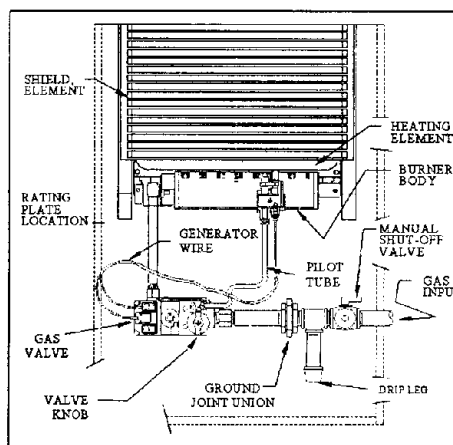

Figure 26
3. Disconnect gas line inside cabinet at ground joint union fitting. (Figure 26).
4. Remove (2) screws securing burner pan assembly to inner liner.